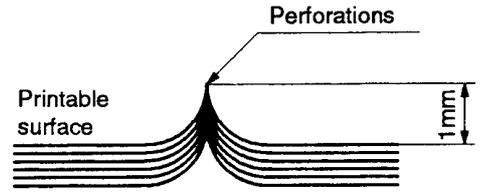

Figure 1-16. Raised Portion at a Perforation
- The raised part at the perforation must be less than 1 mm when the bottom layer kept by force (Refer to Figure 1-16.).